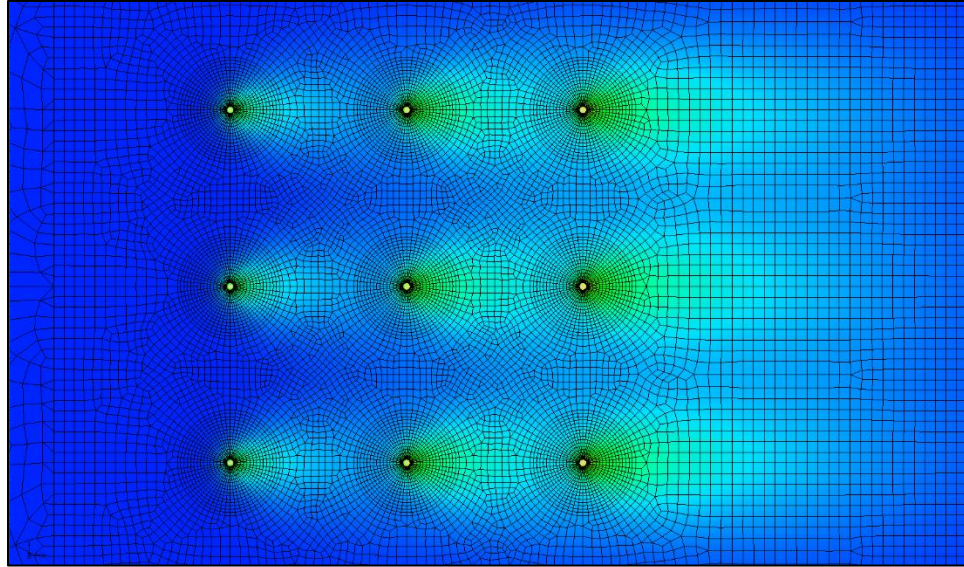

Figure 2: Temperature solution at final time step
2. Change time steps using the *Up arrow* or *Down arrow* keyboard keys, or *Page Up* or *Page Down* keyboard keys. See how the contours show the temperature changing over time, refer Figure 2.